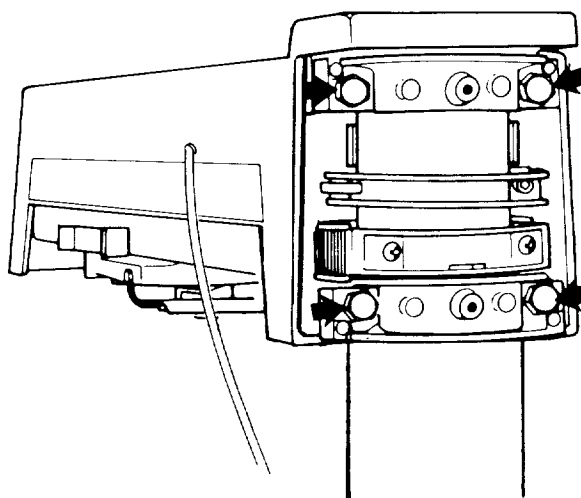

Fig. 127 - Location of Hex Head Tapping Screws
2. With a 9/16 inch wrench or socket tighten evenly the top two 3/8-16 hex head tapping screws. The bottom two screws should also be tightened evenly but not as tight as the top screws. (Figure 127)